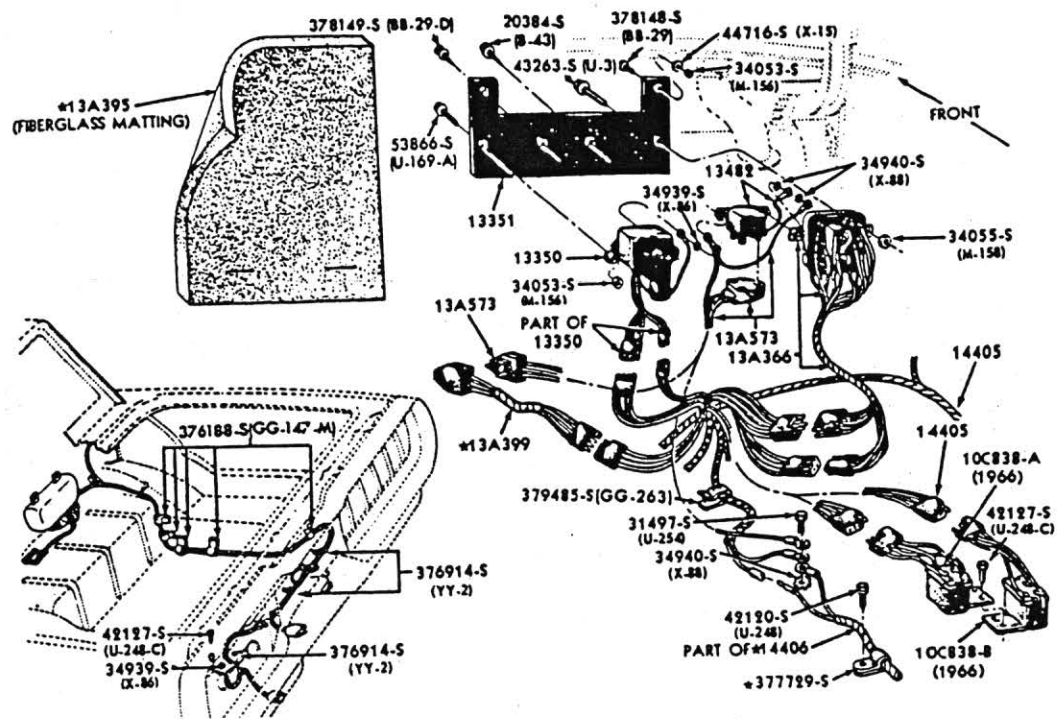

Figure 1. Turn Signal Sequencer Location - 1965 -1966 Thunderbirds built before 11/17/65
1. Locate the factory sequential system mounted on the rubber pad behind the back seat on the passenger side (Figures 1 and 2). Remove the spare tire for access.